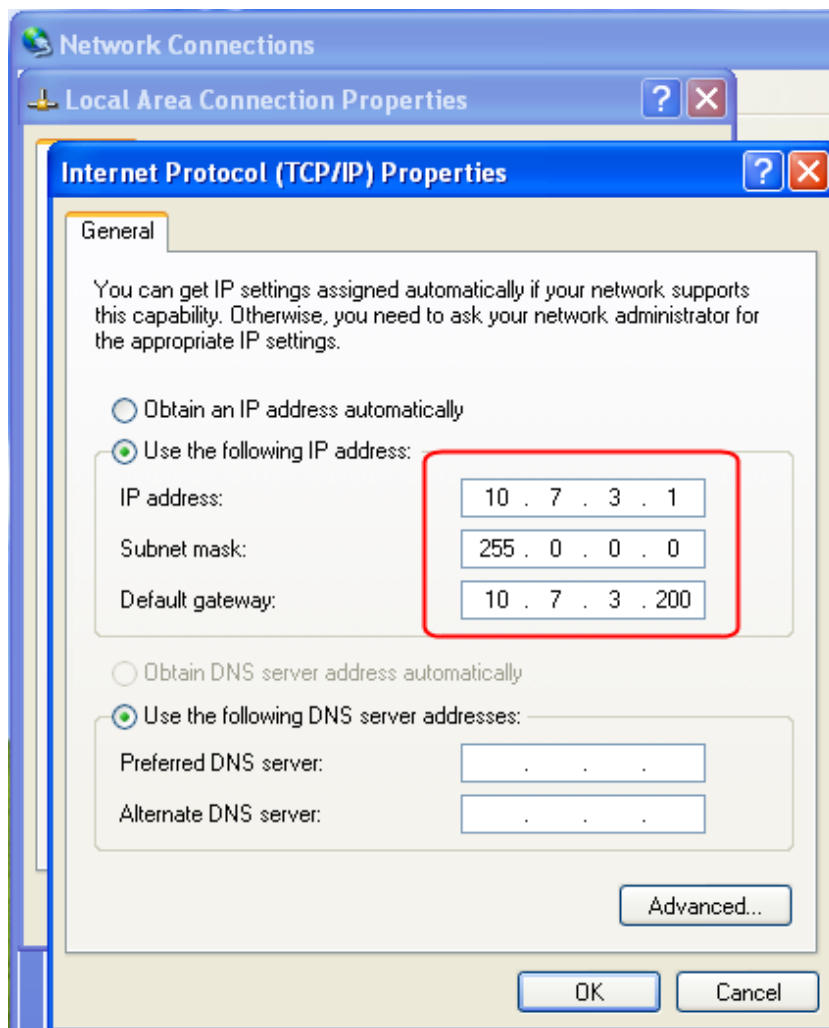

Figure 2-1 Setting up a Wired Connection to the OMT on the Master AU
2. Change the TCP/IP properties (see Figure 2-1):